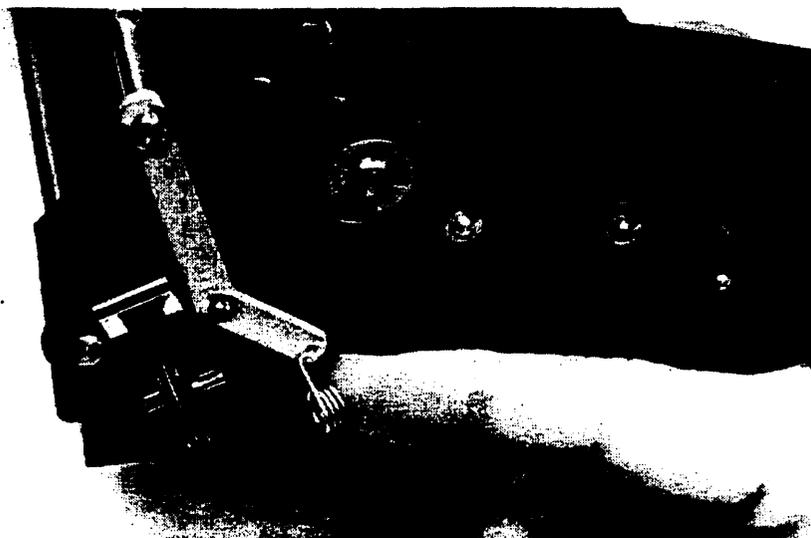

Figure 6-19. Bail-Arm Removal—Spring in Outward Position
1. Lift the right-hand bail spring to the outward position, pinch the legs together, and lift it out. Repeat with the left-hand bail spring. See figure 6-19.